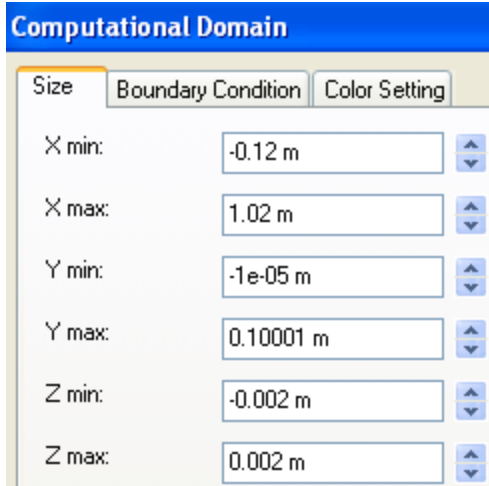
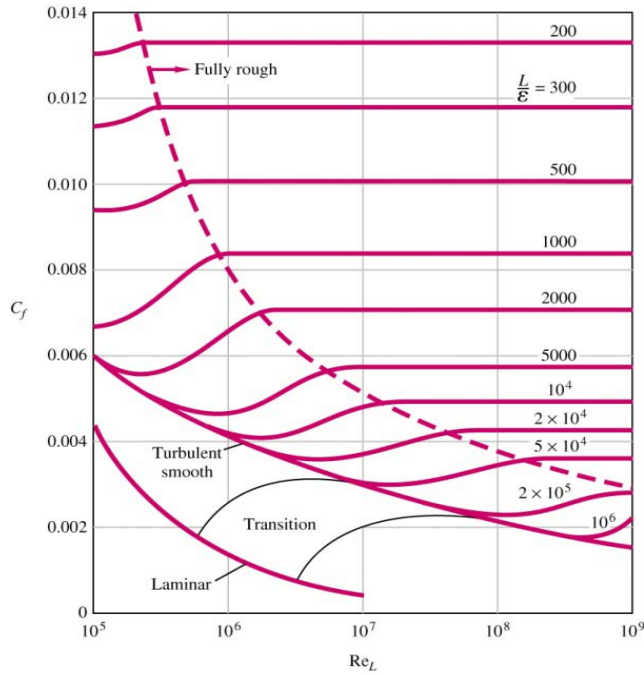

Figure 2.28a) Setting the size of the computational domain
Figure E3 Average friction coefficient for flow over smooth and rough plates, White (1999)
30. Select **FloWorks>>Computational Domain...** Set the size of the computational domain to the values shown in figure 2.28a). Click on the OK button to exit. Select **FloWorks>>Initial Mesh...** from the SolidWorks menu and change the **Number of cells per X:** to **400** and the **Number of Cells per Y:** to **200**. Also, in the **Control Intervals** portion of the window, change the **Ratio** for **Y1** to **-100** and the **Ratio** for **X1** to **-5**. This is done to increase the number of cells close to the wall where the velocity gradient is high.). Click on the OK button to exit. Select **FloWorks>>Calculation Control Options...** from the SolidWorks menu. Change the **Maximum travels value** to **5** by first changing to **Manual** from the drop down menu. Travel is a unit characterizing the duration of the calculation.). Click on the OK button to exit.
The average friction coefficient over the whole plate C_f is a function of the surface roughness for the turbulent boundary layer and also a function of the Reynolds number based on the length of the plate Re_L , see figure E3 in Exercise 8. This friction coefficient can be determined in FloWorks by using the final value of the global goal, the X-component of the Shear Force F_f and dividing it by the dynamic pressure times the area A in the X-Z plane of the computational domain related to the flat plate, see figure 2.28a) for the size of the computational domain.
8. Use different fluids, surface roughness, free stream velocities and length of the computational domain to compare the average friction coefficient over the entire flat plate with figure E3.